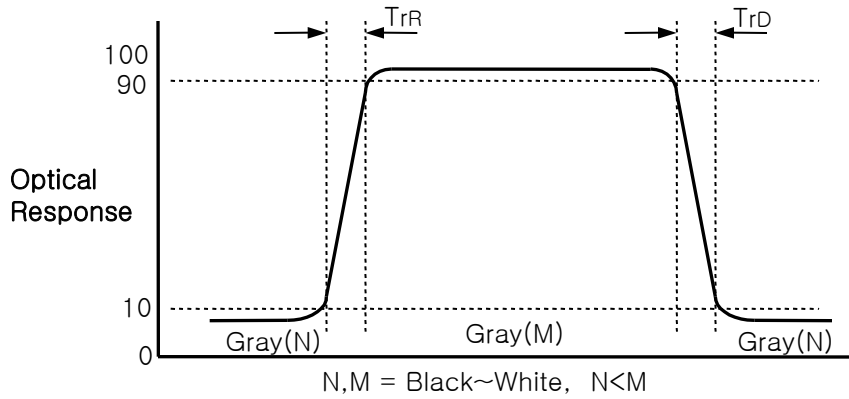

FIG. 3 Response Time
4. Response time is the time required for the display to transition from G(N) to G(M) (Rise Time, Tr_R) and from G(M) to G(N) (Decay Time, Tr_D). For additional information see the **FIG. 3**. (N<M) * G to G Spec is average of measured time (N, M = 0 (Black) ~ 1023(White), 128 gray step).